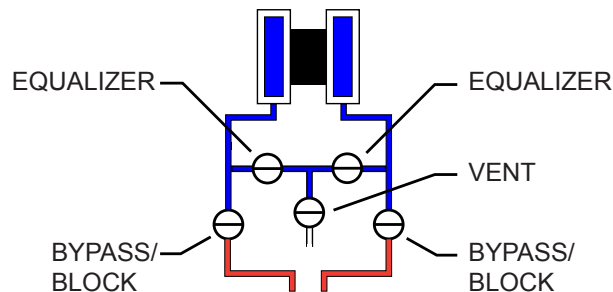

Figure 2.15—Valve positions for manifold leak test
3. Close both bypass/block valves on the manifold to isolate pressure between the block valve and the MVT (Figure 2.15).